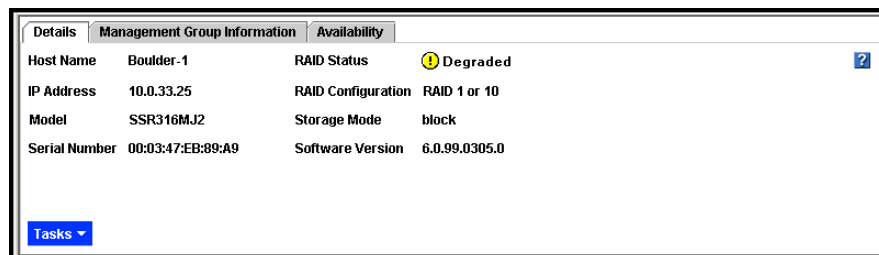

Figure 19. Icon Showing RAID is Degraded
- If RAID is **degraded**, a yellow circle displays, as shown in Figure 19. See “Monitoring RAID Status” on page 78 for information about fixing degraded RAID.